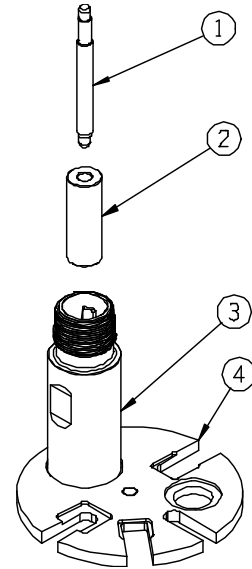

Figure 11-15 End Cap Disassembly
1. Refer to Figure 11-15. Place End Cap (3) with the external threaded end facing up on Arbor Press Plate (4). With Valve Guide Pusher (2) and Punch (1) press the Valve Guide and Shock Absorber from the End Cap.